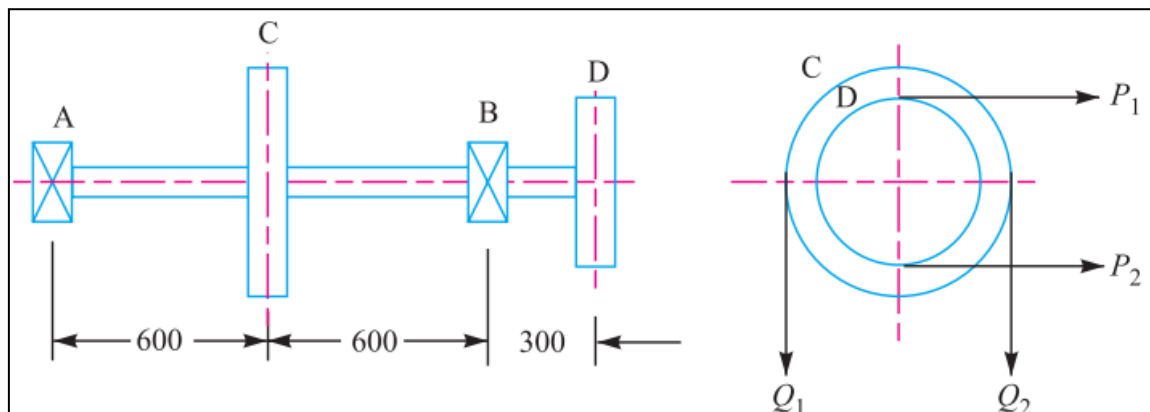

Fig. 1 (Que. 3 (a))
- Q.3 (a)** A horizontal shaft AD supported in bearings at A and B and carrying pulleys at C and D is to transmit 75 kW at 500 r.p.m. from drive pulley D to off-take pulley C, as shown in Fig 1. Calculate the diameter of shaft. The data given is : $P_1 = 2 P_2$ (both horizontal), $Q_1 = 2 Q_2$ (both vertical), radius of pulley C = 220 mm, radius of pulley D = 160 mm, allowable shear stress = 45 MPa. **10**